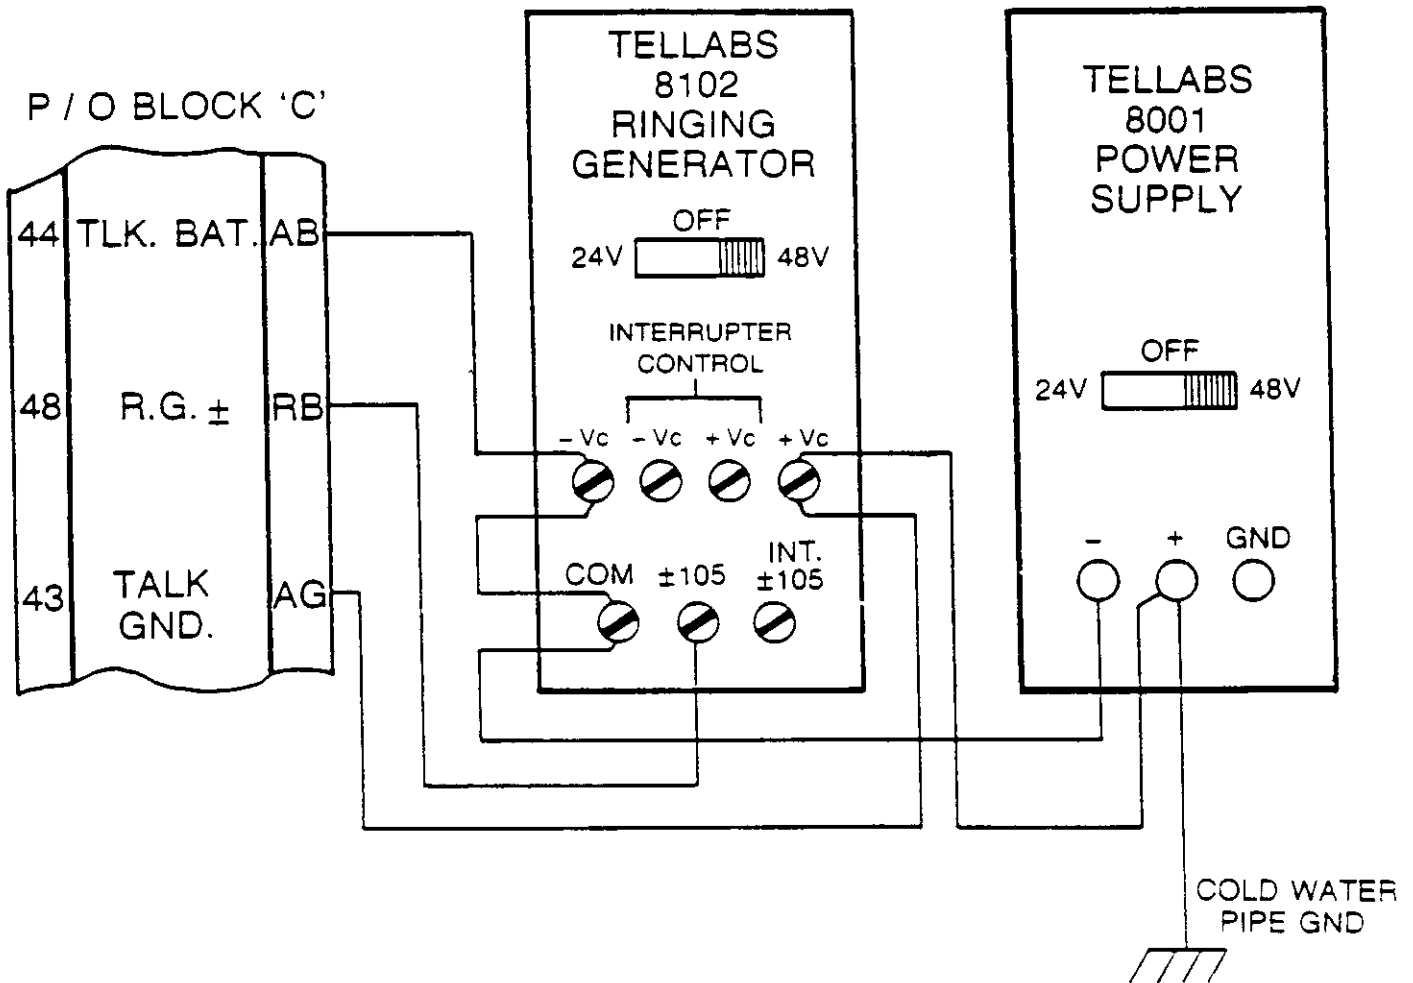

Figure 6 CONNECTING 6 CARD KSU TO POWER SUPPLY AND RINGING GENERATOR
4.06 Ground the KSU and Power Supply by connecting a 14 AWG wire to the positive (+) terminal on the Power Supply and a cold water pipe ground (Figures 6, 7).
4.07 Connect the 6 Card or 13 Card KSU to the Power Supply and Ring Generator as follows (Figures 6, 7).
To connect the 6 Card KSU to the Power Supply and Ringing Generator (Figure 6, Table 3)